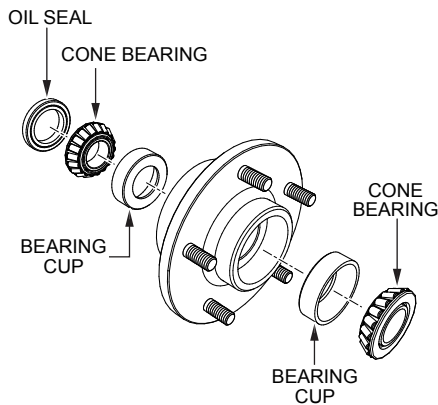

Figure 35. Wheel Hub and Bearings
1. After **every 3 months** of operation, remove the hub dust cap and inspect the wheel bearings (Figure 35). Once a year, or when required, disassemble the wheel hubs remove the old grease and repack the bearings forcing grease between rollers, cone and cage with a good grade of high speed wheel bearing grease (never use grease heavier than 265 A.S.T.M. penetration (“No. 2.”).
2. Fill the wheel hub (Figure 35) with grease to the inside diameter of the outer races and also fill the hub grease cap. Reassemble the hub and mount the wheel. Then tighten the adjusting nut, at the same time turn the wheel in both directions, until there is a slight bind to be sure all the bearing surfaces are in contact.